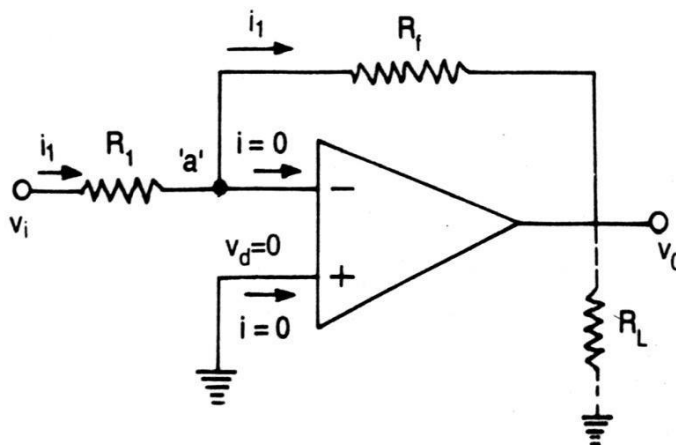

Fig. 2.5 (a) Inverting amplifier
- The circuit is shown in the figure 2.5(a)